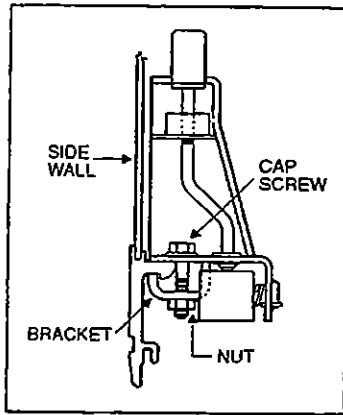

Figure 48
4. Remove 2 cap screws, nuts, and washers holding seat frame to side wall and retain the 2 holding brackets. See figure 48.